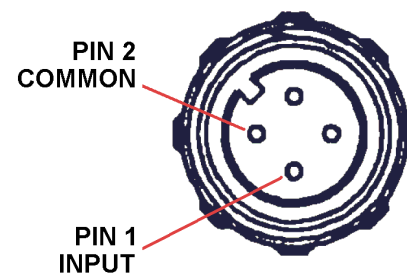

Figure 3. EXTERNAL IN.
- **EXTERNAL 1 and 2** — Buccaneer PX0410/04S/4550 connector (Fig. 3). Connect to neutron detectors, occupancy sensors, other peripherals; 0 V to +5 V with adjustable threshold; input pulled up to +5 V via 5000 Ω resistor. Set and monitor thresholds with firmware commands SET_THRESH_AUX, SHOW_THRESHOLD_AUX, SHOW_INPUT, ENAB_COUNT_LIST, and DISA_COUNT_LIST.⁴ Waterproof threaded cap should be left in place when a port is not in use.